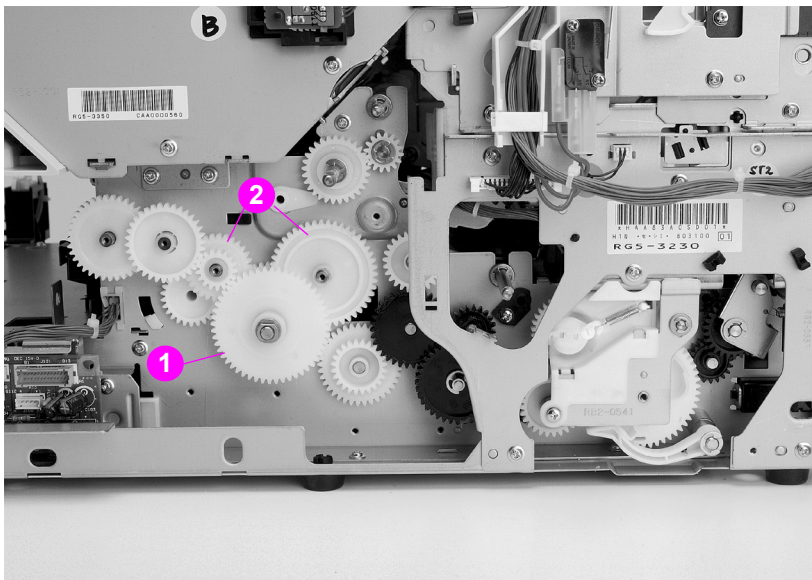

Figure 6-56 Left side gears removal and replacement (2 of 2)
- 1 Install the back half of the large double gear shown in callout 1, Figure 6-56 with the small portion of the gear (18T) facing outward.
- 2 Install the two gears (shown in callout 2, Figure 6-56 on page 194) so they cover the back half of the large double gear.
- 3 Install the remaining gears and the front half of the large double gear so they appear as shown in Figure 6-56 on page 194.